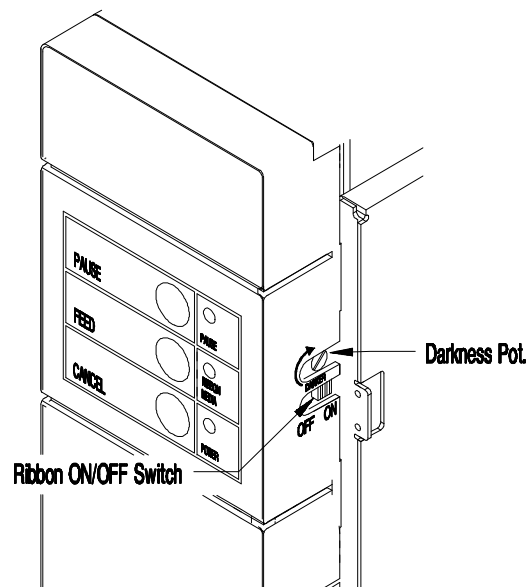

Figure 3-1 Front Panel
The Printer has five (5) operator accessible switches and three (3) LED indicators, (see *Figure 3-1*). A brief description of the switches and LED indicators is listed in this section.